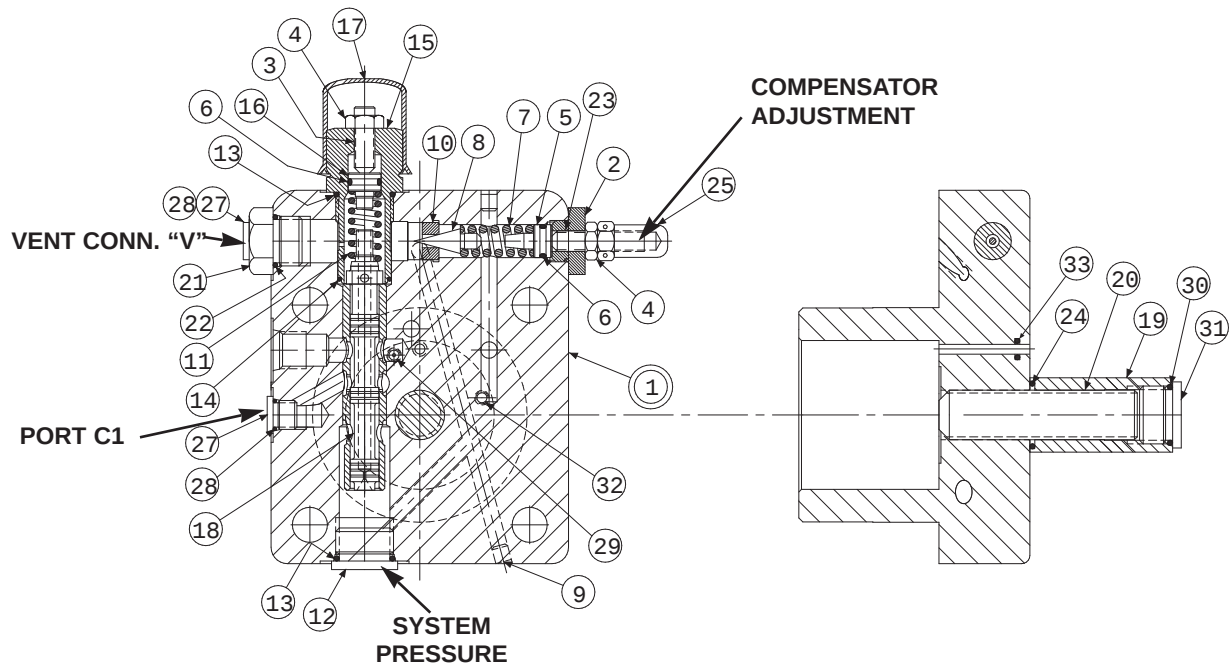
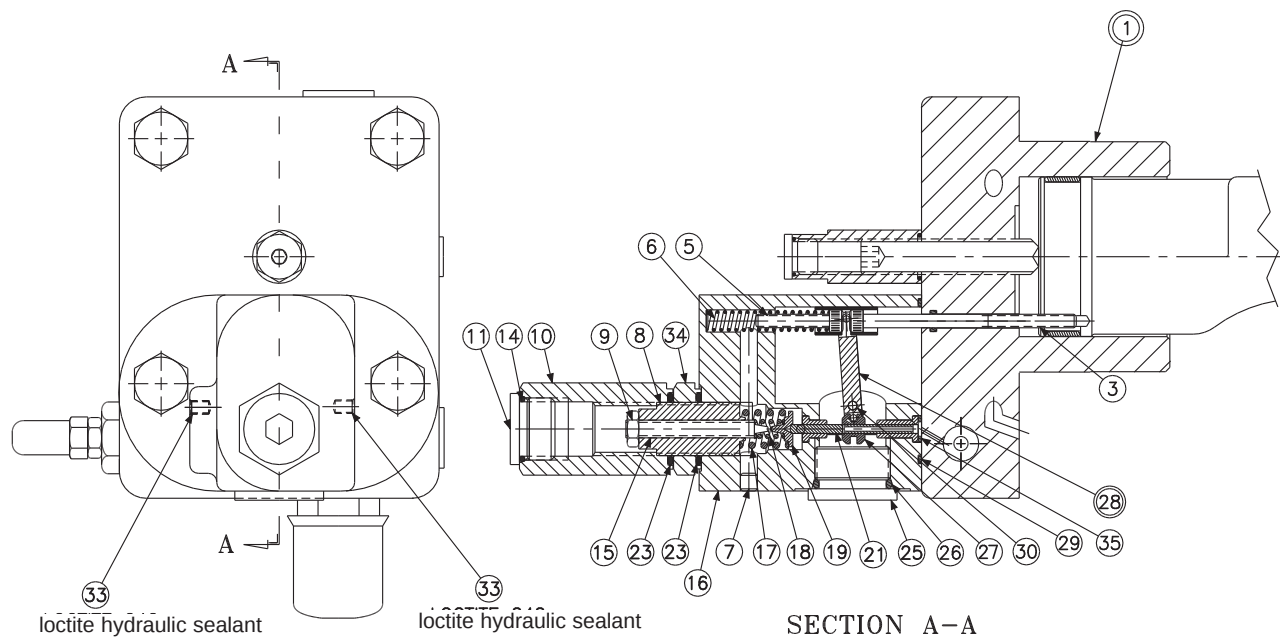

FIGURE 28
FIGURE 29
PARTS LIST FOR FIGURE 28
PARTS LIST FOR FIGURE 29
1. **See figure 29.** Remove 2 screws holding torque limiter body (16) to cap assembly (1).
2. Remove all parts from torque limiter body (16) except pin (30) and arm assembly (28). It is not necessary to remove these parts unless broken or worn. Examine parts for wear or damage.
3. Remove screw (3). Examine head for excessive wear, and body for smooth sealing surface with O-ring.
4. **See figure 28.** Remove maximum volume stop assembly (items 19, 20, 24, 30, 31).
5. Remove cap assembly (1).
6. Remove plug (15) and attached parts. Remove spring (11) and spool (18).
7. Remove adjusting plug (2) and attached parts. Remove seal piston (5). Note: a 10-24 screw may be attached to assist in pulling the piston. Remove spring (7) and cone (8).
8. Do not remove sleeve in body (1). Sleeve is pressed into cap and finished to size. If sleeve, snout or cap is worn, replace the cap-sleeve assembly (1).
9. Examine seat (10) for wear. Do not remove unless damaged.
1. **See figure 28.** Install Avseal plugs (9) orifice (29) and screw (32).
2. Press seat (10) into bore squarely against shoulder in bore.
3. Install spool (18) into bore as shown. Install spring (11) over end of spool. Install O-ring (6) on seal piston (16). Lubricate and install into plug (15). Install O-rings (13) and (14) on plug (15) Install plug (15) into cap. Install screw (3), nut (4) and acorn nut (17).
4. Install O-ring (6) on seal piston (5).
5. Lubricate O-ring and install cone (8), spring (7) and seal piston into bore in cap (1), being careful that cone enters seat (10). Install adj. plug (2), screw (25), nut (4), and acorn nut (25).
6. Install plugs (12), (21) and (27) and torque.
7. Carefully install O-ring (33) into the cap.
9. Install maximum stop screw (20), cover (19), O-ring (24) and plug (31) with O-ring (30).
10. **See figure 29.** Apply Loctite 242 on threads of screw (3), lubricate the shank, thread through the cap into the control piston, and torque to 5 lb.*ft., 6,78 Nm.
12. Press dowel (30) into body (16), through the link assembly (28), to 1/4", 6,35 mm below surface. Apply Loctite hydraulic sealant® to threads of screws (33) and install over dowel (30).
13. While sleeve (27) is engaged into dowel on link (28), slide spool (21) into bore of body (16), and through sleeve (27). Spool (21) must move freely and easily at all positions of the link (28).
14. Assemble remaining parts per drawing. Torque plug (11).
15. While spring retainer is engaging screw (5) under dowel of link (28), slide the other opening of spring retainer over the top of the screw (3). Attach body assembly (16) to cap (1) and torque assembly screws to 75 lb.*ft., 102 Nm.